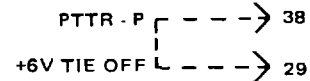

Figure 5-4. Interface Cable Connection
- c. Install CAU terminal block boards (from CAU accessory kit part number 21000385-000) but only far enough to allow access to the terminal block (TB1 through TB3) screws. Attach FPA/CAU interface cable lugs to TB1 through TB3 on terminal block board(s) in accordance with Figure 5-4. Insert each terminal block board fully into its appropriate connector.
- e. On the RED compartment side, terminate cable in accordance with Figure 5-4 for channels 1 and 2, using wire insertion tool.